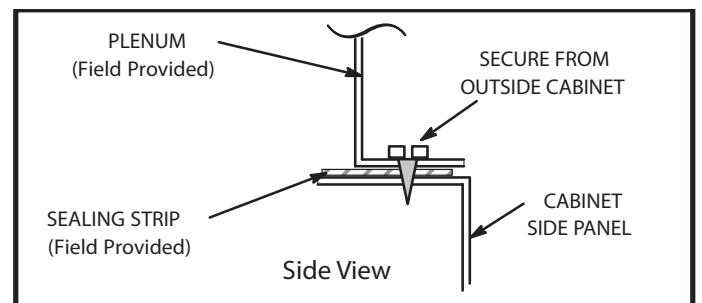

FIGURE 15
1. Bottom edge of plenum should be flanged with a hemmed edge (See Figure 15 or 16).